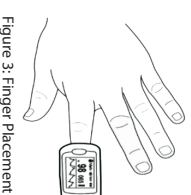

Figure 3: Finger Placement
B. The finger should be in inserted as illustrated in Figure 3 in order to obtain accurate measurements.